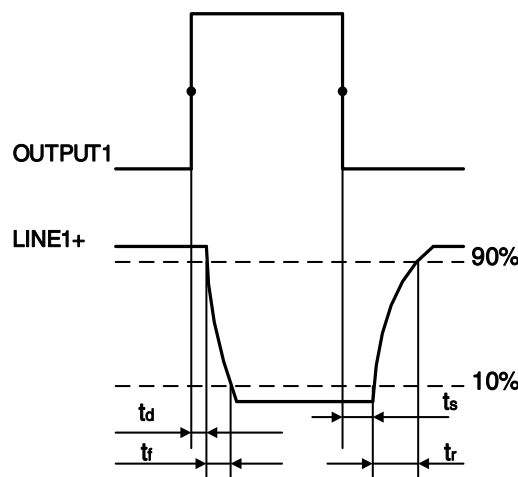

Figure 7-10 Parameter of opto-isolated output circuit
- Rising time delay = t_r+t_d : $<50\mu s$ ($0^{\circ}C\sim 45^{\circ}C$) (parameter description is shown in Figure 7-10)
- Falling time delay = t_s+t_f : $<50\mu s$ ($0^{\circ}C\sim 45^{\circ}C$) (parameter description is shown in Figure 7-10)